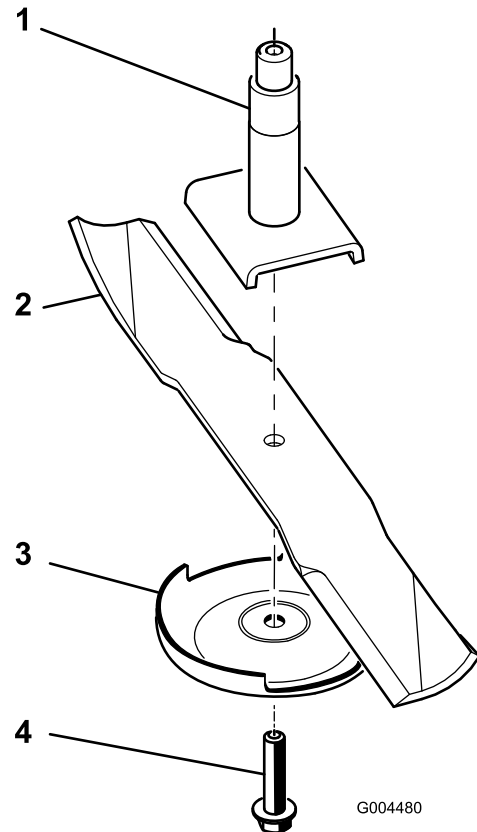

Figure 73
2. Remove the blade bolt, anti-scalp plate, and blade from the spindle shaft (Figure 73).
Note: If the blade stays in a horizontal position, the blade is balanced and can be used. If the blade is not balanced, file some metal off the end of the sail area only (Figure 73). Repeat this procedure until the blade is balanced.
1. Install the blade onto the spindle shaft (Figure 73).
2. Install the anti-scalp plate and blade bolt (Figure 73).